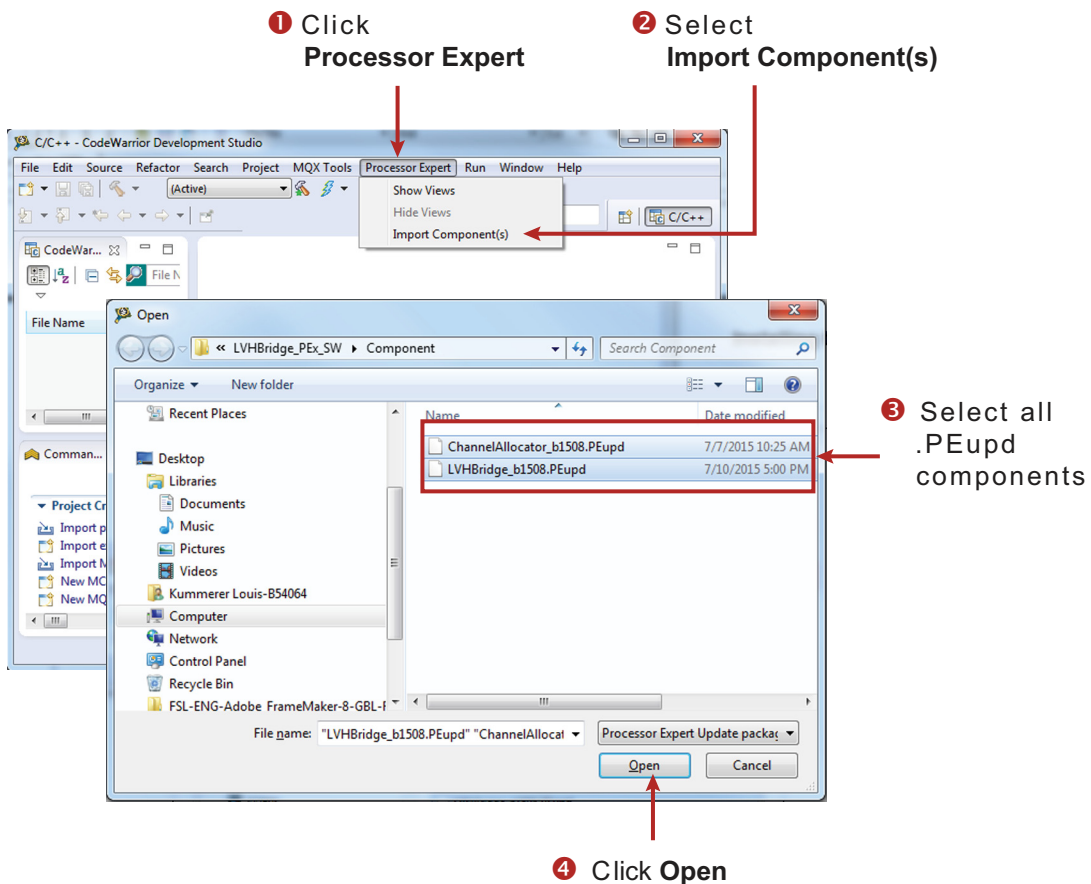

Figure 6. Import LVHBridge component
2. In the pop-up window, locate the component file (.PEupd) in the example project folder LVHBridge_PEx_SW\Component. Select **LVHBridge_b1508.PEupd** and **ChannelAllocator_b1508.PEupd** files then click **Open** (see Figure 6).